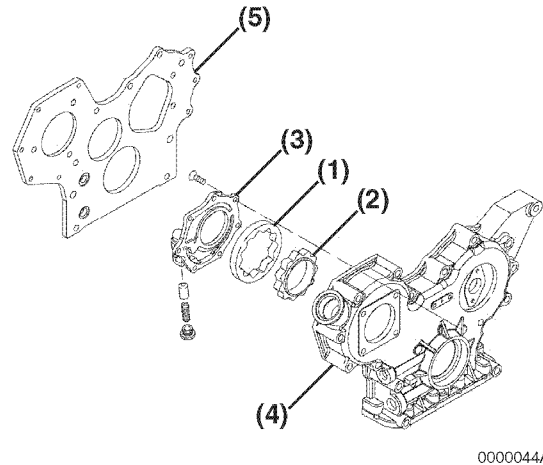

Figure 9-12
1. Lubricate the outer rotor (Figure 9-12, (1)), inner rotor (Figure 9-12, (2)) and pump bore in the gear case cover with clean engine oil.
5. Reinstall the oil pump cover (Figure 9-12, (3)). Apply LOCTITE 290 (green) or LOCTITE 262 (red) to the oil pump cover screws. (Follow LOCTITE package instructions.) Tighten the pump cover screws to 61 ± 13 in·lb (6.9 ± 1.5 N·m, 0.7 ± 0.15 kgf·m).